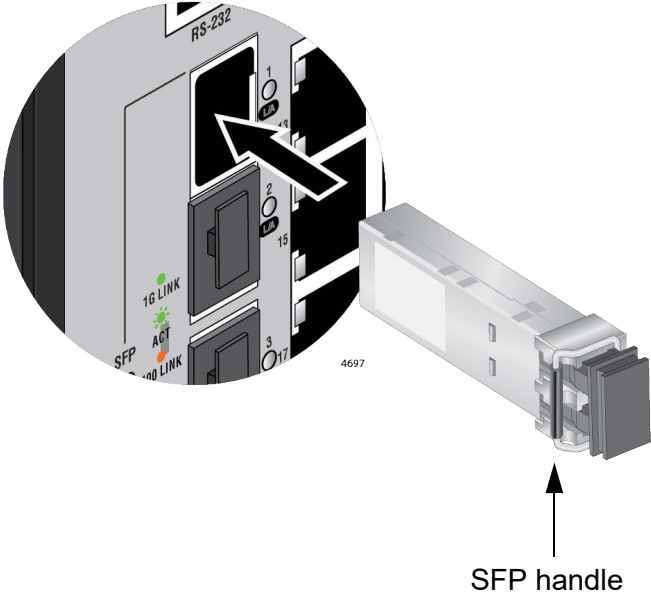

Figure 36. Installing an SFP Transceiver
- 3. Position the transceiver with its handle on the right and slide it into the slot until it clicks into place. Refer to Figure 36.